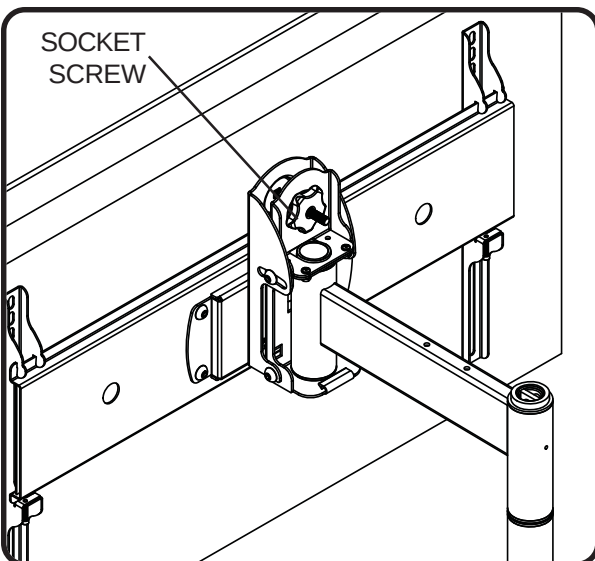

fig. 10.1
- To lower screen, turn socket screw shown in figure 10.1 clockwise with 10 mm allen wrench (V).
- To raise screen, turn socket screw shown in figure 10.1 counterclockwise with 10 mm allen wrench (V).